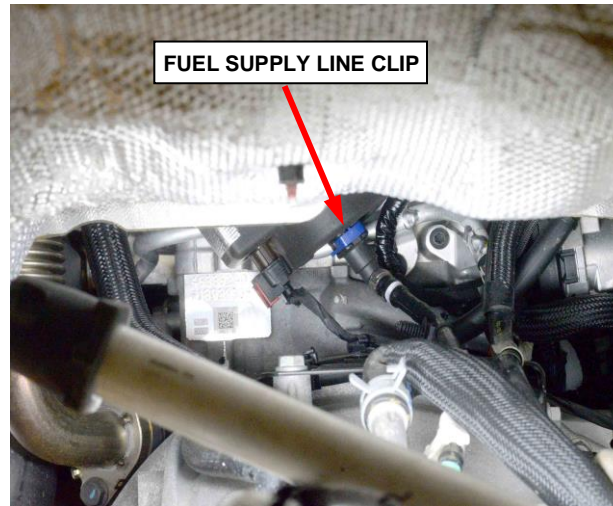

Figure 22 – Fuel Supply Line Clip at High Pressure Pump
33. Release the blue connector clip on the fuel supply line connector at the high pressure pump (Figure 22).
1. Connect the fuel supply line to the fuel injection pump (Figure 22).